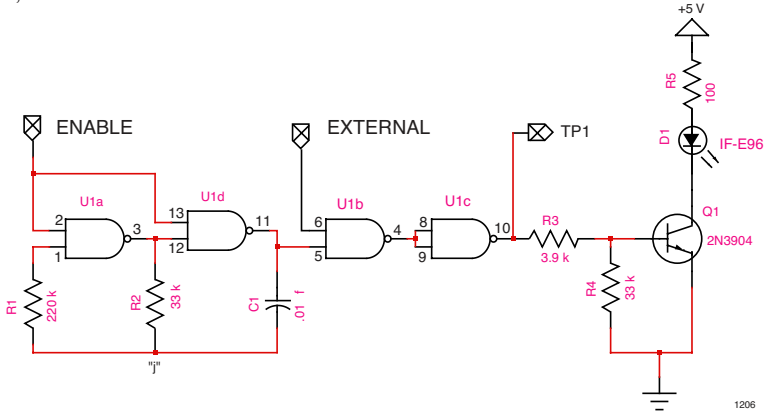

Figure 9. Transmitter board schematic.
- A5. In electronic design, multiple circuits often will achieve the same design goals. We'd now like you to design an alternative electronic LED drive circuit that will accept an external and oscillator input signal. Draw that circuit below. You may use **Figure 9** as a reference.
- A6. What is the minimum output voltage at Gate **d** in **Figure 9** necessary to ensure saturation of the LED drive NPN transistor? (Assume $h_{fe}=50$; $V_{ce}=0.2$ volts; $V_{cc}=5$ volts; and $V_{LED}=1.5$ volts.)